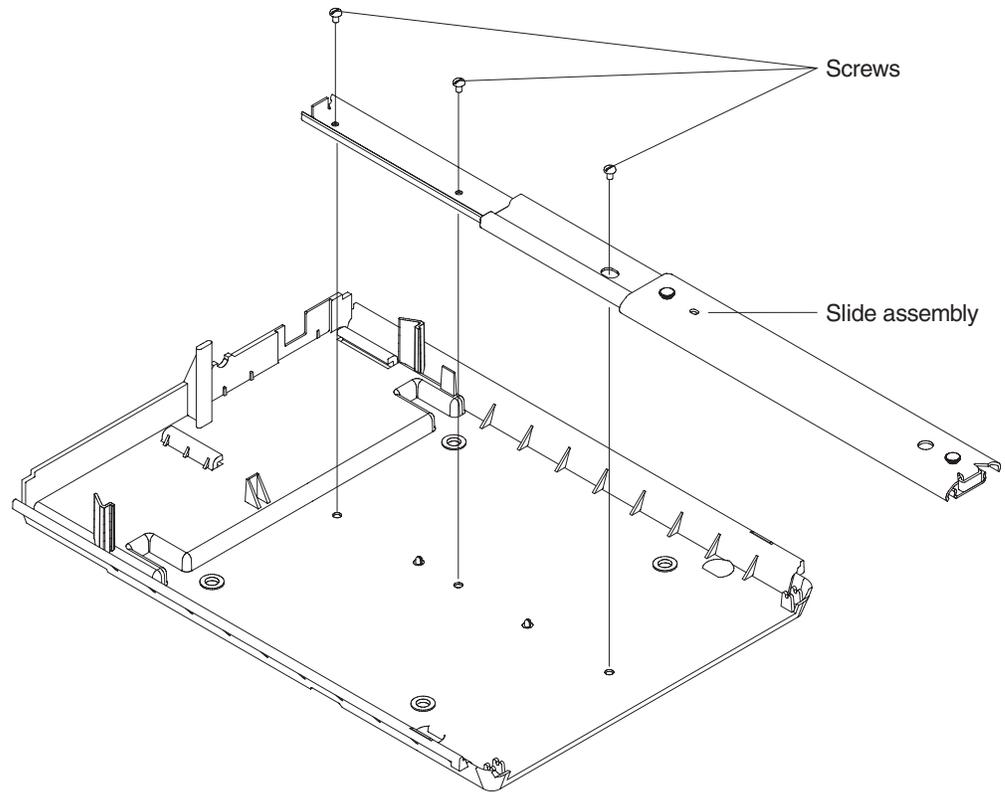

Figure 13. Compact cash drawer slide assembly
3. Remove the three screws that secure the slide to the base, and lift the slide assembly out (see Figure 13 on page 15).